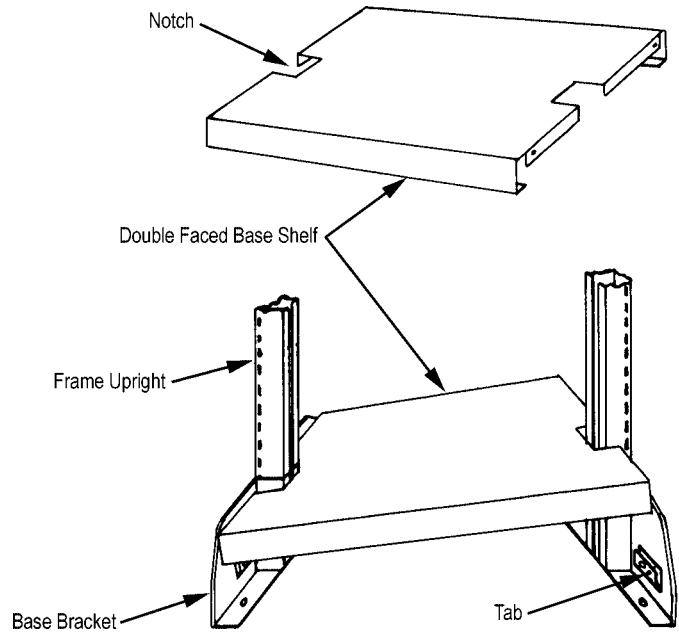

FIGURE 19
1. Place base shelf between base brackets tilted at a slight angle. Carefully align shelf notch with upright to avoid scratching. See Figure 19.